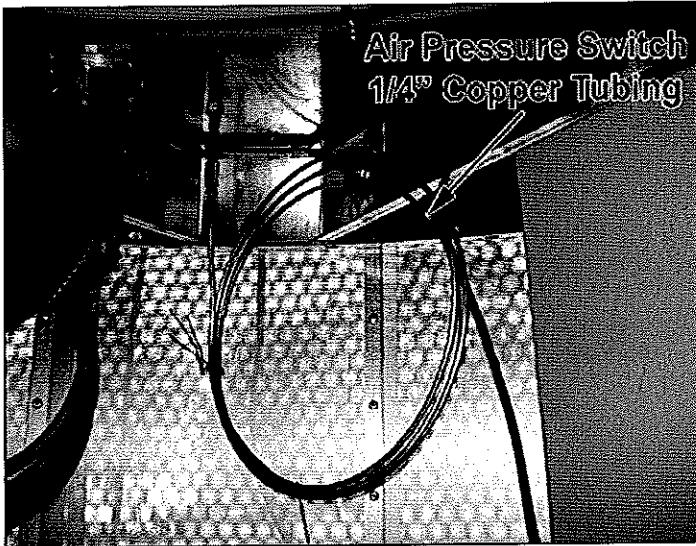

Figure 35
The Air Pressure switch is located in the motor control portion of the High Voltage Cabinet. The 1/4" aluminum tubing for the Air Pressure Switch is coiled in the cool section of the dryer. See Figure 35. Unwind aluminum tubing and connect open end to the Air Pressure Tube that is installed in the Heat Floor next to the 3/4" vapor line coming from the (3) ring vaporizer. A special compression fitting is supplied.